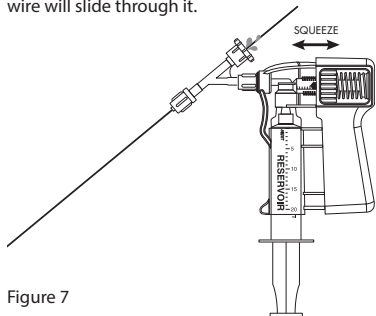

Figure 7
7. The Squirt should be activated so heparinized saline from the 20 ml reservoir syringe comes through the back end cap of the hemostasis valve. (See Figure 7) When all the air has been displaced, the back end cap should be tightened onto the proximal end of the occluding wire, such that the wire will slide through it.